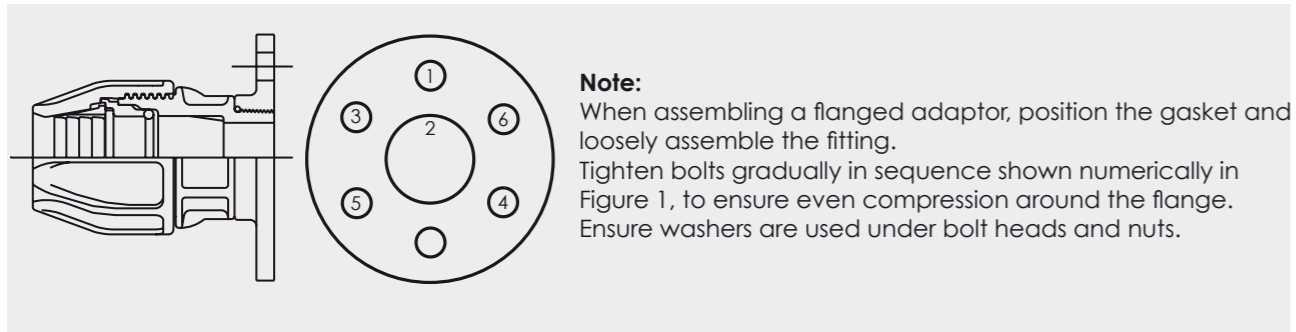

FIGURE 1
3. Tighten the bolts with a spanner ensuring the bolts are torqued up correctly in an appropriate sequence, refer Figure 1.